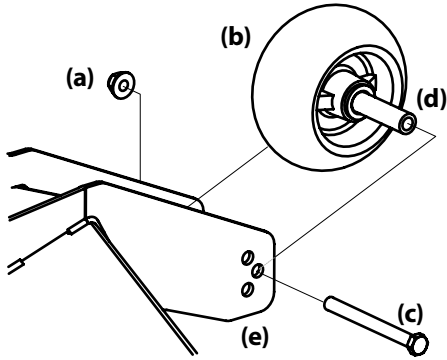

Figure 4-8
2. Remove the lock nut (a) securing one of the front gauge wheel (b) hex screws (c) to the deck. Remove the front gauge wheel (b), hex screw (c) and spacer (d). See Figure 4-8.